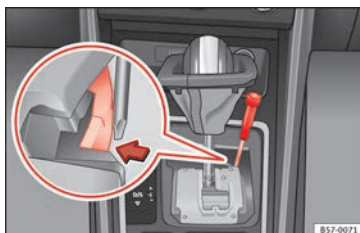

Fig. 60 Selector lever: manual release from position P.
- Using a screwdriver, press and hold the yellow unlocking tab sideways  **Fig. 60**.